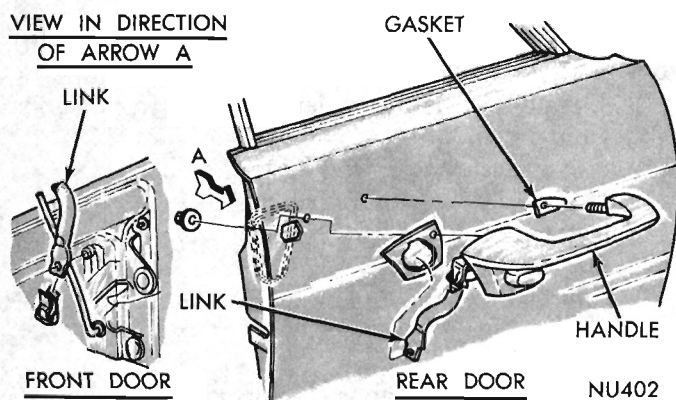

Fig. 20 - Outside Door Handle
(1) With door glass in up position, remove handle attaching nuts from mounting studs (Fig. 20) and link from handle to lock.
(2) Lift handle up and remove from door.
(1) With door open and glass in up position, remove link retainer at handle connector (Fig. 20).
(2) Depress outside handle release button and remove link from handle connector.
(3) Remove handle to door nuts.